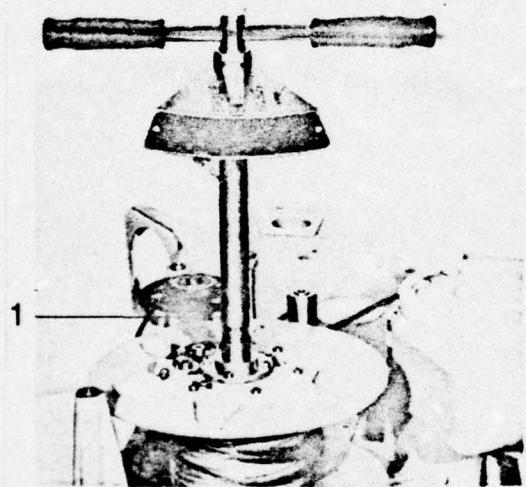

Figure 3.13
Guide spindle (1, Figure 3.13) may not be turned during these works since otherwise the limit switch becomes maladjusted.
37. Torque wrench (measuring range 0-150 cmkp) with socket s = 14 mm to be attached and the torque read off during a half-turn in a clockwise direction (Figure 3.13).